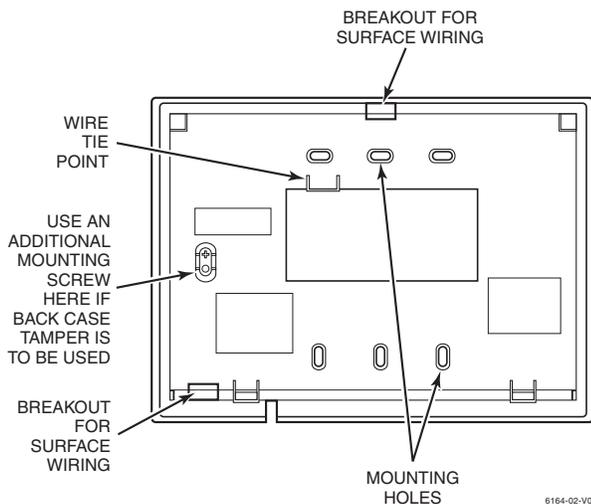

Figure 2. Wiring Entry (Case Back)
For tamper protection, an additional mounting screw must be used in the case back, as shown in Figure 2.
If you wish to tamper-protect the keypad for removal from the wall, use an additional mounting screw in the tamper hole in the case back (see Figure 2 for location).
3. Pass the four power/data wires, wires for up to four zones, and two or three relay contact wires through the opening in the case back. If surface wiring is being used, wiring may be routed through the top or the bottom left-side breakout in the case back. See Figure 2. The breakouts must be punched out using a screwdriver before mounting the case back. If desired, wires may be strain-relieved to the wire tie point on the inside of the case back with a tie wrap (not supplied).